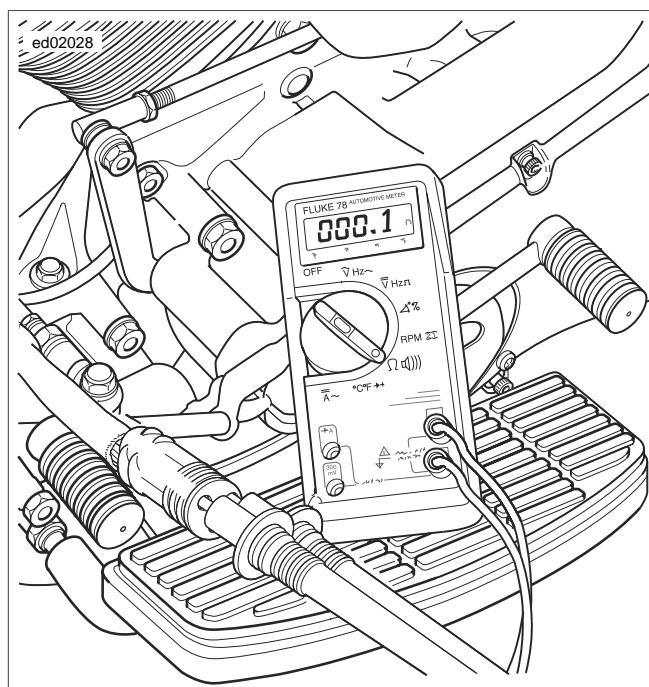

Figure 1-24. Check for Stator Resistance (Typical)
4. See Figure 1-24. Remove ground lead. Check resistance across stator sockets 1-2, 2-3 and 3-1.